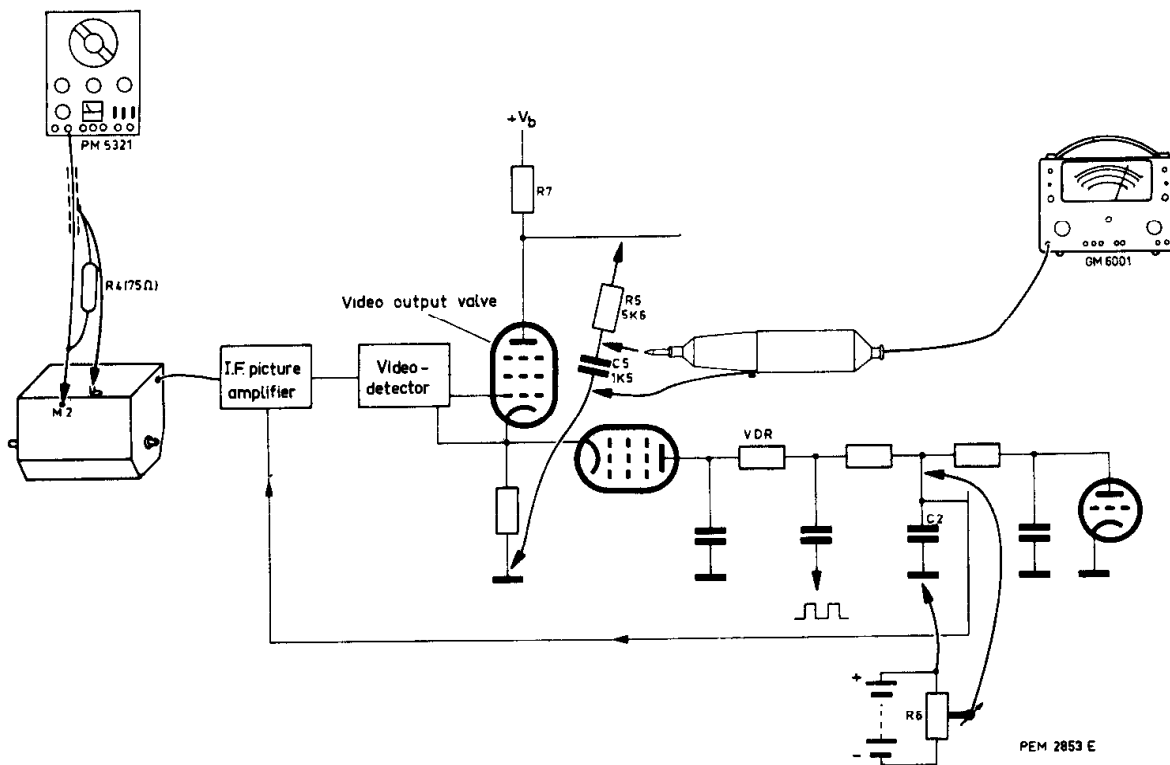

Fig. 26. Connection of the various instruments to a TV receiver
RF signal generator (Fig. 26)
Valve voltmeter (Fig. 26)
Battery (Fig. 26)
*The pointer of the valve voltmeter does not stand still, but oscillates slowly:* This phenomenon is due to a small difference between frame and mains frequency. In most cases it is sufficient to turn the frame-synchronizing control slightly. If this is not the case, an improvement may be achieved by switching off the frame oscillator. For instance, remove the supply voltage of the frame oscillator and, in doing so, do not forget to turn back the brightness control. Should the pointer still oscillate, then the hum voltage on the anode of the video output valve is too large and the supply voltage + Vb (Fig. 26) must be extra decoupled with an electrolytic capacitor of 1,000  $\mu\text{F}$  ( $4 \times 250 \mu\text{F}$  in parallel).